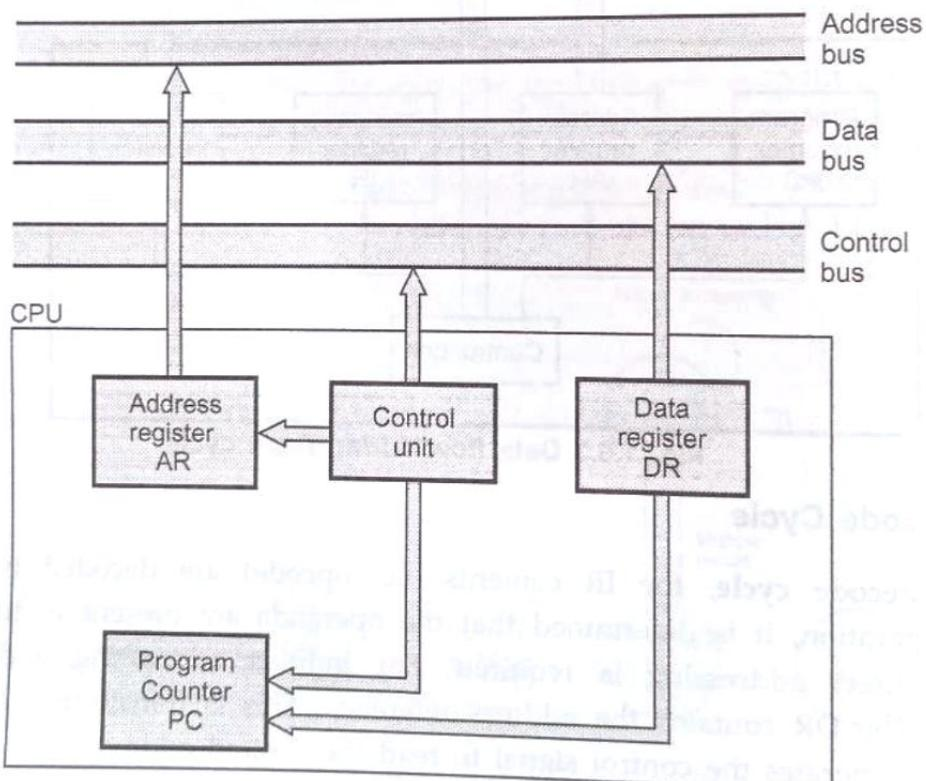

Fig. 1.6.5 Data flow during interrupt cycle
- Fig. 1.6.5 shows the data flow during interrupt cycle.